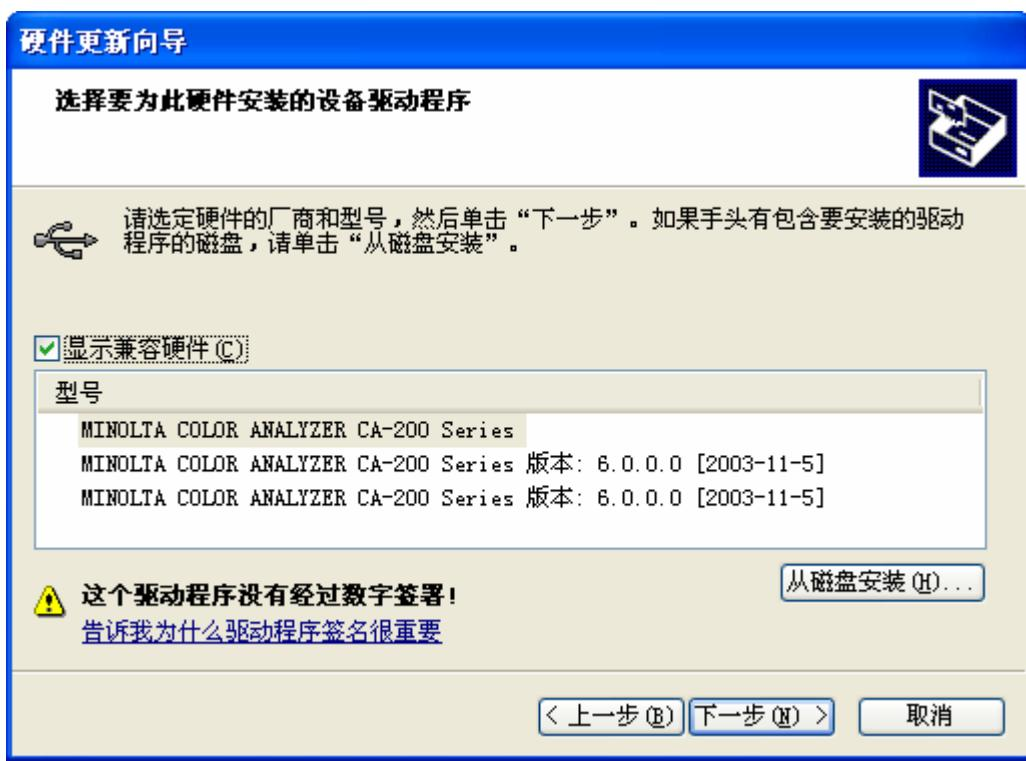

Fig. 6
- d) Interface shown as Fig. 6 will display, select item “Install from disk”;